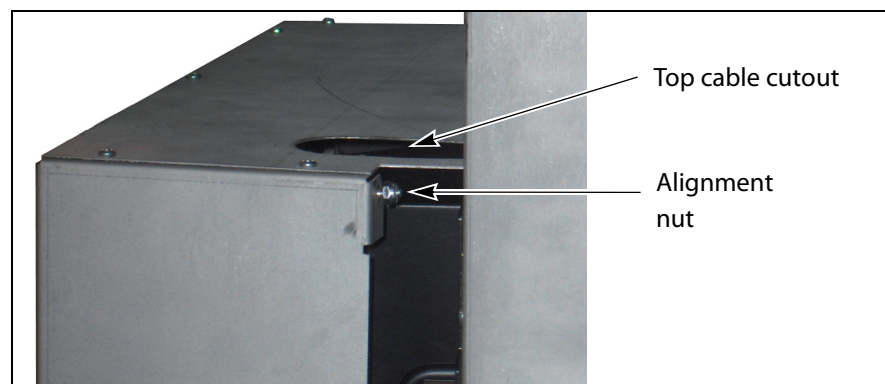

Figure 5 Cover alignment nuts (one on each side).
- Lift the cover upward and away from the chassis to disengage the two nuts extending from the back of the cover from the holes on either side of the chassis (see Figure 5). Set the cover aside.